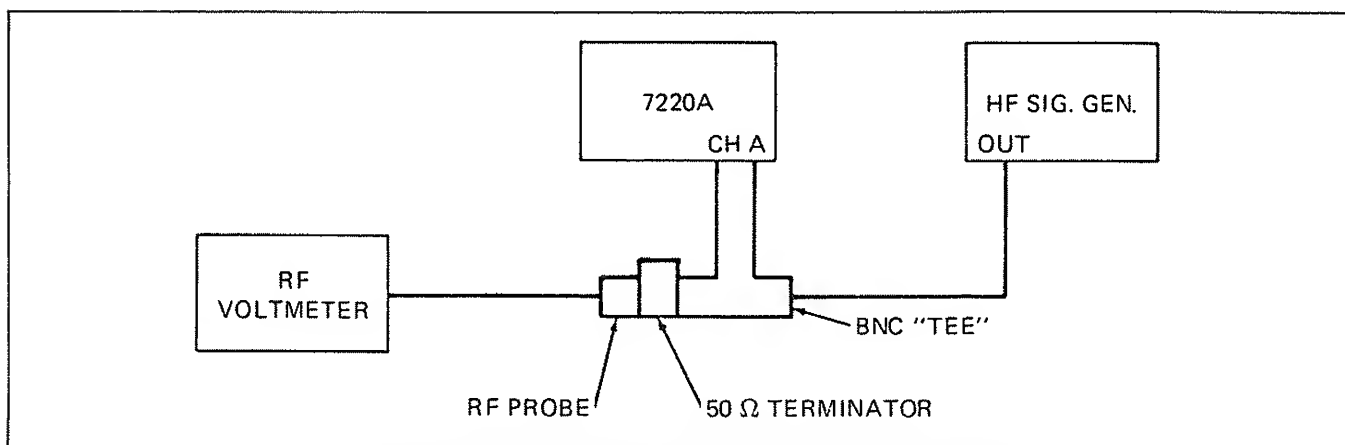

Figure 4-2. Channel A High Frequency Input Sensitivity Check
2. Connect the 7220A and test equipment as illustrated in Figure 4-2.